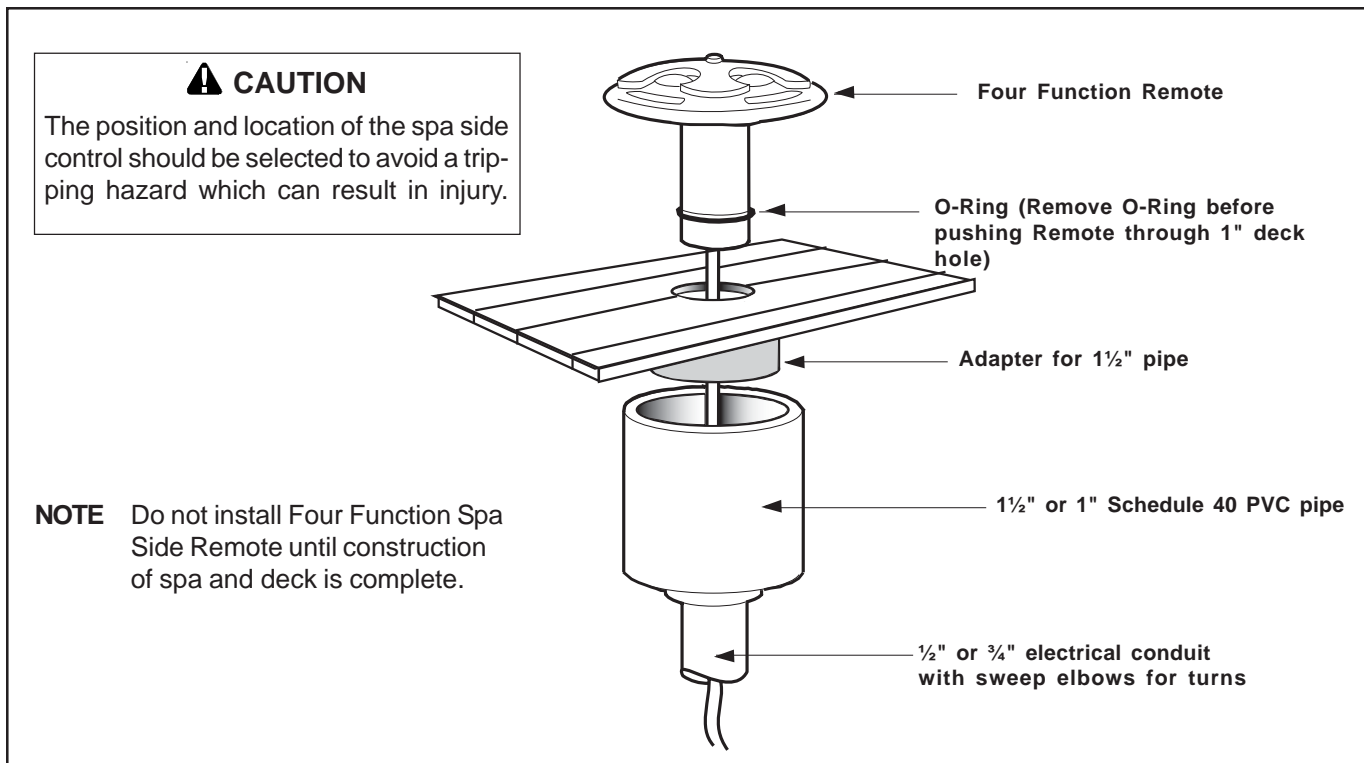

Figure 2. Spa Side Remote Installation for Spa Shell/Wood Deck
1. Cut a 1" diameter hole in the spa shell or deck at the mounting location that will be convenient to the pool/spa owner, see Figure 2. The remote should be installed within arm's reach of the water. This hole will house the Four Function Remote.
3. Feed a snake or similar tool from the Power Center through conduit to the remote mounting location. Feed the Four Function Remote cable through the 1" hole in the deck or spa, and then through the 1½" to 1" adapter. Remove the O-Ring from the remote, then push the remote through the hole in the deck (see Fig. 2). Connect the remote cable to the snake and use the snake to pull the cable through the conduit to the Power Center.